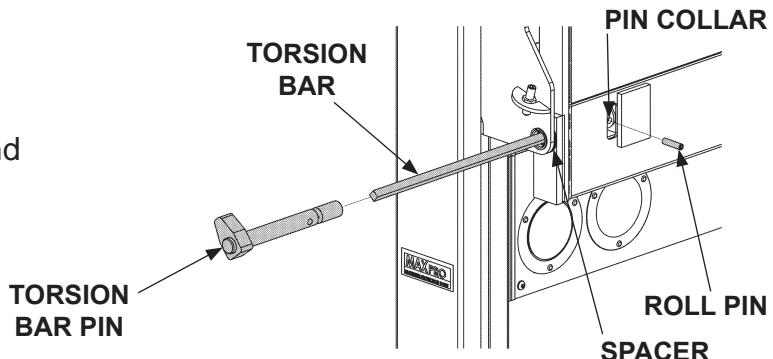

FIG. 19-3
4. Drive roll pin from pin collar and torsion bar pin (FIG. 19-3). Then, remove torsion bar pin, spacer and torsion bar (FIG. 19-3).